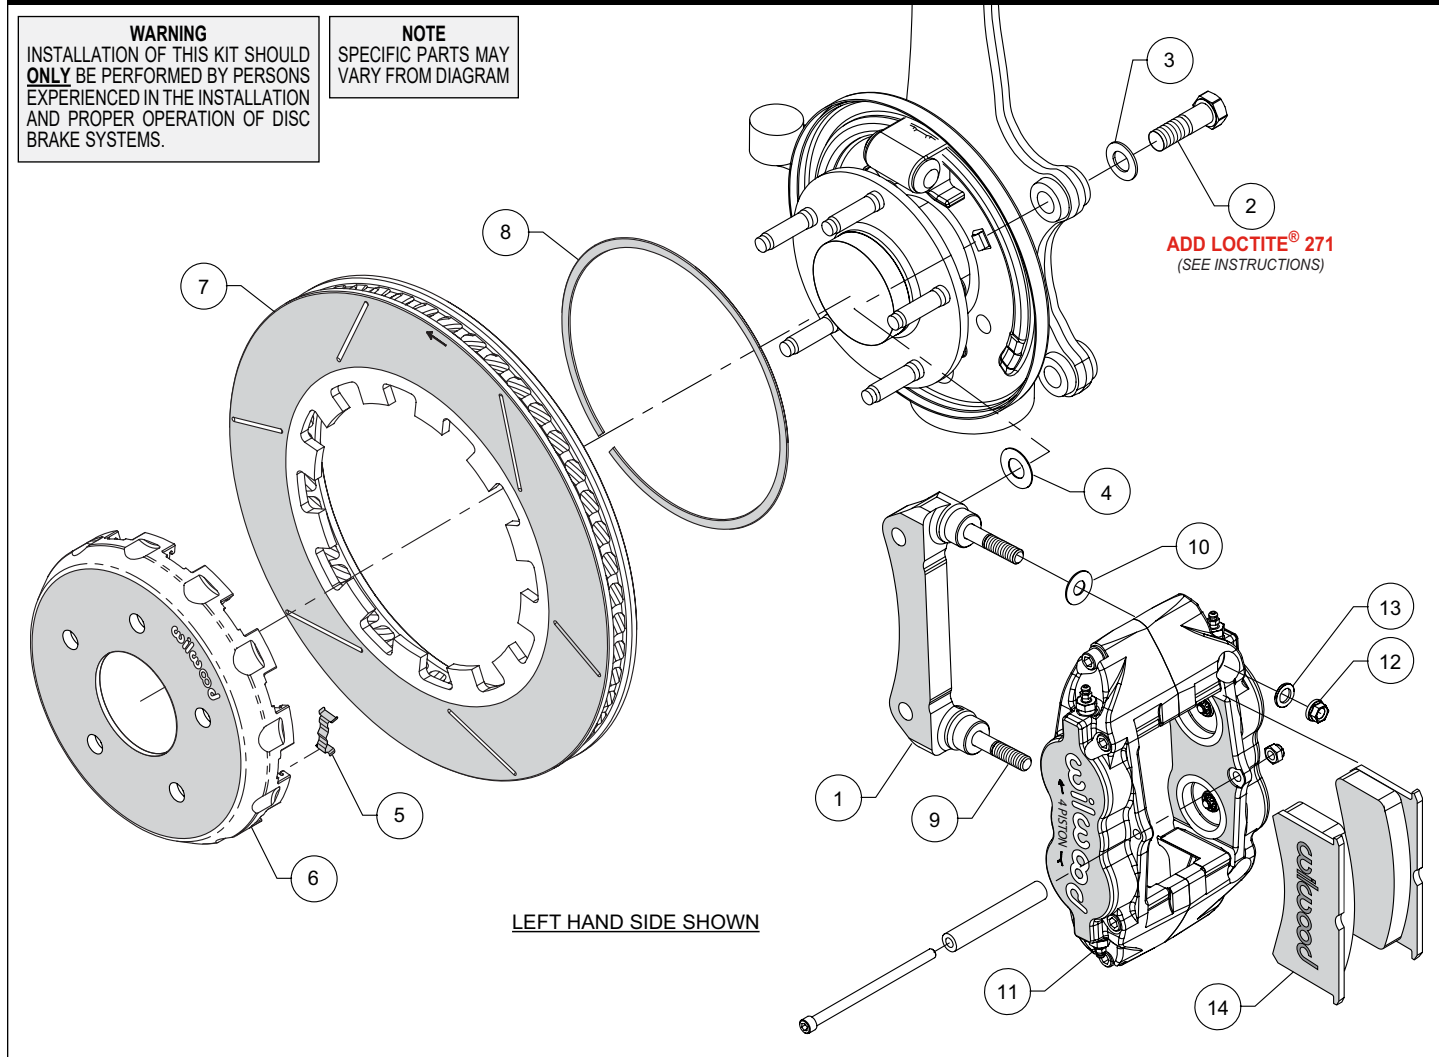

Figure 1. Typical Installation Configuration
NOTE: Numbers in parenthesis refer to the parts list and Figure 1 on the preceding pages.
- The caliper mount bracket (1) should initially be installed with clean, dry threads on the mounting bolts. Orient the bracket, as shown in Figure 1 and Photo 1, and install using bolts (2) and washers (3). Initially place one .029" thick shim (4) on each bolt between the bracket and upright, Figure 1. Temporarily tighten the mounting bolts. **NOTE:** *The bracket must fit squarely against the mount bosses on the upright.* Inspect for interference from casting irregularities, machining ridges, burrs, etc. Later, after the caliper alignment has been checked, the mount bolts will be secured using red *Loctite*® 271.
- Insert the dynamic mount wear clips (5) into the slots in the hat (6), Photo 2. Orient the rotor (7) as shown in Figure 1 and Photo 3, with the flush side of mount lugs facing the hat. Secure the rotor to the hat using the snap ring (8) by simultaneously pushing down on the rotor and installing the ring into the groove in the hat, as shown in Photo 4. Carefully inspect snap ring to ensure complete engagement in the groove.
- Initially place one .035" thick shim (10), on each stud (9) as shown in Figure 1 and Photo 6. Mount the caliper (11) onto the bracket (1) using lock nuts (12) and washers (13), Figure 1. Temporarily tighten the lock nuts and view the rotor through the top opening of the caliper. The rotor should be centered in the caliper, Photo 7. If not, adjust by adding or subtracting shims (4) between the bracket and the upright. Always use the same amount of shims on each of the two mounting bolts. Once the caliper alignment is correct, remove the bracket mounting bolts (2) one at a time, apply red *Loctite*® 271 to the threads, and torque to 105 ft-lb.